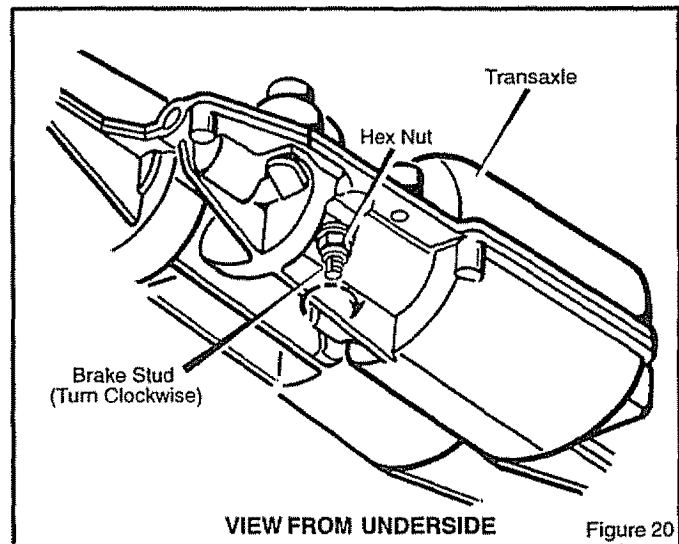

Figure 20
7. The brake adjustment of the **transaxle** is located on the underside of the transaxle (Figure 20). Use one wrench to hold the **brake stud** and another wrench to hold the **hex nut**. Loosen the **hex nut** approximately 2 turns.